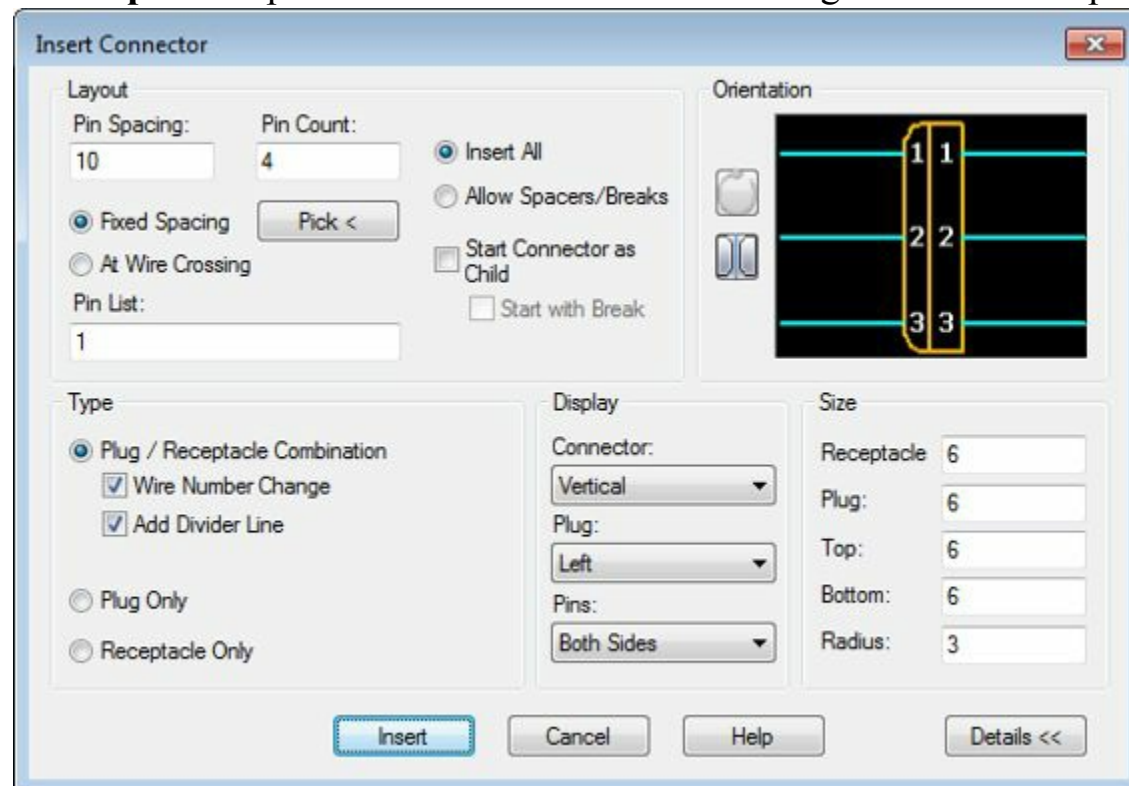

Figure-31. Insert Connector dialog box
- Click on the **Insert Connector** tool from the **Insert Connectors** drop-down in the **Insert Components** panel. The **Insert Connector** dialog box will be displayed as shown in Figure-31.